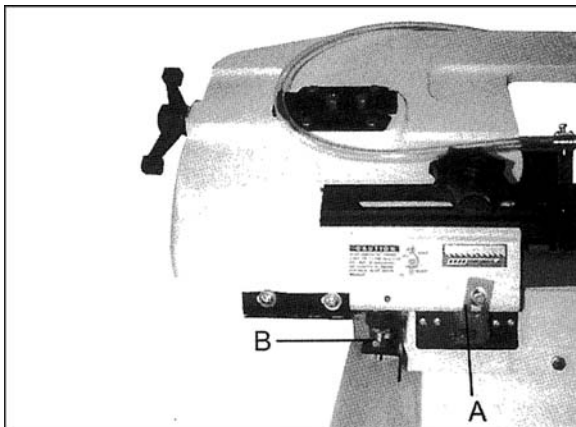

Figure 22
1. If the saw completes the cut and continues to run, adjust the trip bracket (A, Figure 22) down.
2. If the saw shuts off before the cut is complete, adjust the trip bracket (A, Figure 22) up.
3. If the saw stops cutting but continues to run, adjust the stop bolt (B, Figure 22).